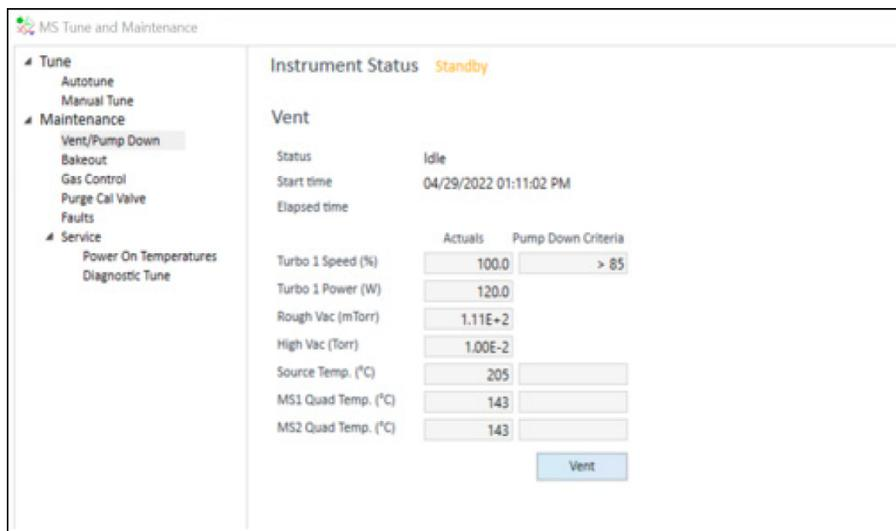

Figure 37. Pumpdown status
- 14 The **Pumpdown** dialog displays. (See **Figure 37**.) You are prompted to make sure the vent valve is closed.